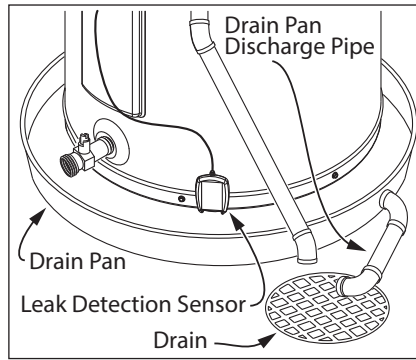

Figure 6 - A suitable drain pan piped to an adequate drain can help protect flooring from leaks and drips.
- Suitable drain pan (see Figure 6 on page 8)
- Install a suitable drain pan (available in stores) under the water heater (Figure 6) to catch condensation or leaks in the piping connections or tank. Most codes require, and we recommend, installing the water heater in a drain pan that is piped to an adequate drain. The drain pan must be at least 2” (51 mm) wider than the diameter of the water heater. Install the drain pan so the water level would be limited to a maximum depth of 1-3/4” (44 mm).
- In a suitable drain pan piped to an adequate floor drain or external to the building (See Figure 6 on page 8).